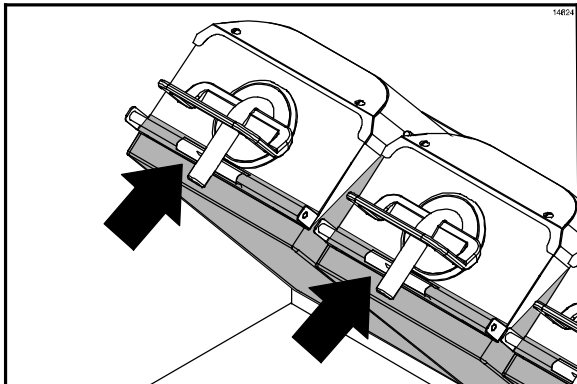

Figure 68
- 40. Re-install the upper release sheets. Secure the sheets with the locking clips and bars. (See Figure 68.)